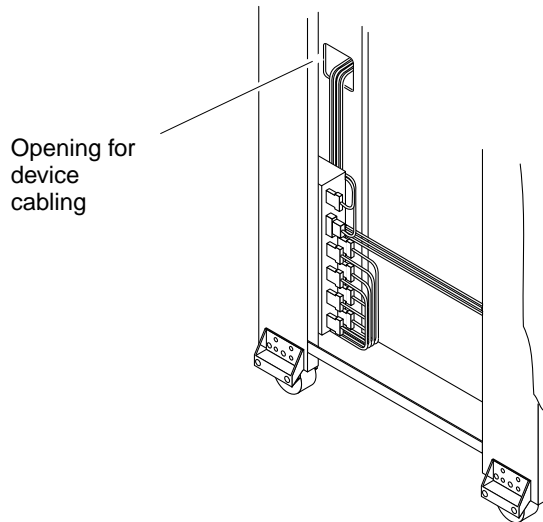

FIGURE 1-4 Cabling in the Sun Enterprise System Cabinet
- FIGURE 1-4 Cabling in the Sun Enterprise System Cabinet 5